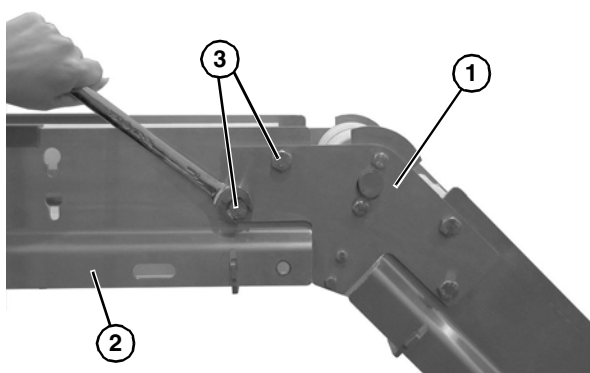
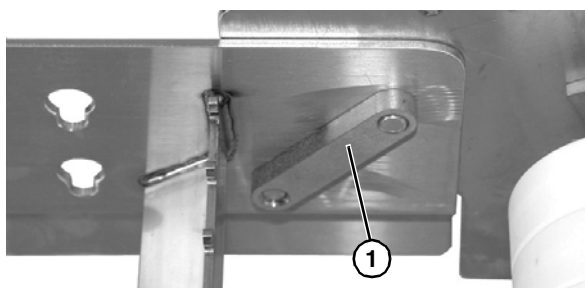

Figure 7
Figure 8
1. Attach upper knuckle (**Figure 7, item 1**) to frame (**Figure 7, item 2**) by using two cap screws (**Figure 7, item 3**) and connector plate (**Figure 8, item 1**) on each side of conveyor.